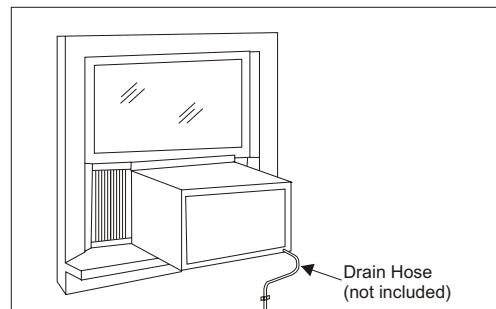

Fig. 14
C. In very humid areas, the water removal may be excessive enough to overflow the unit or increase the noise of the air conditioner. If this occurs, you may wish to attach a **drain hose (not included)** to the drain plug allowing condensations to run off conveniently. See (Fig. 14).